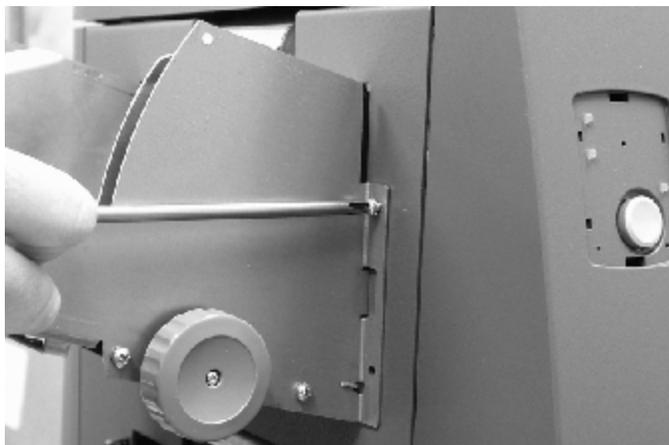

Figure 8 Mounting the Feeder
4. From the hardware bag, use four screws to mount the feed as shown in Figure 8.